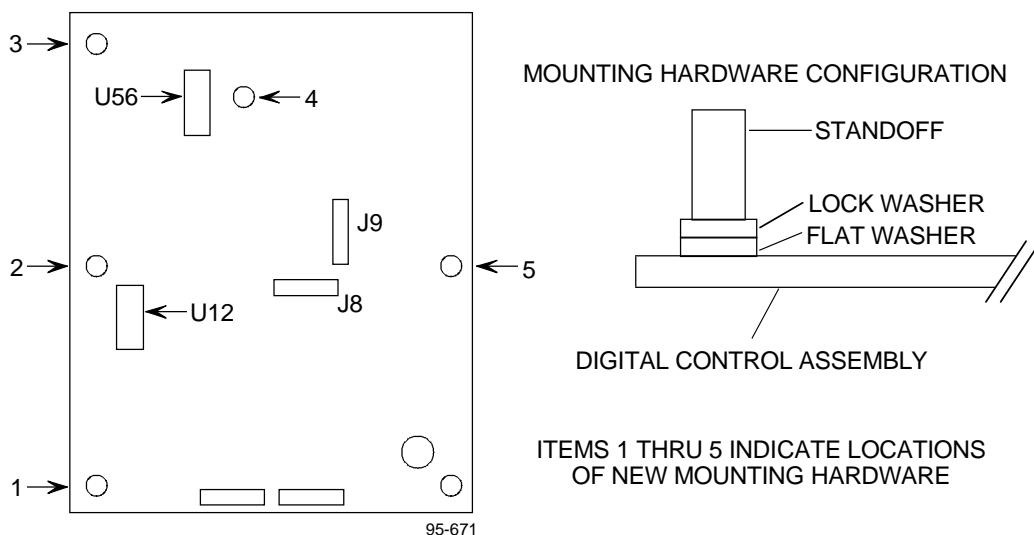

Figure G-6. Mounting Hardware Installation
2. Remove five of the six mounting screws and their associated washers from the Digital Assembly, identified as items 1 through 5 in **Figure G-6**.
3. At each mounting location install one standoff, one flat washer, and one lock washer. Refer to the Mounting Hardware Configuration in **Figure G-6** for the orientation of these parts.